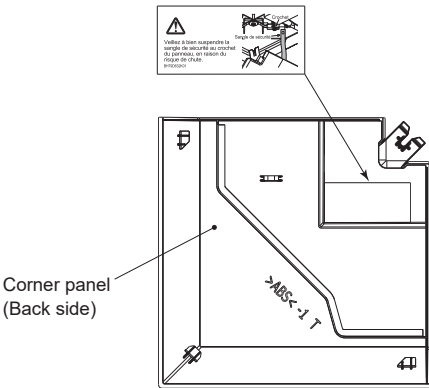

Fig. 6-14
- ① Receiver
② 3D i-see Sensor
6.7. French label (Fig. 6-14)